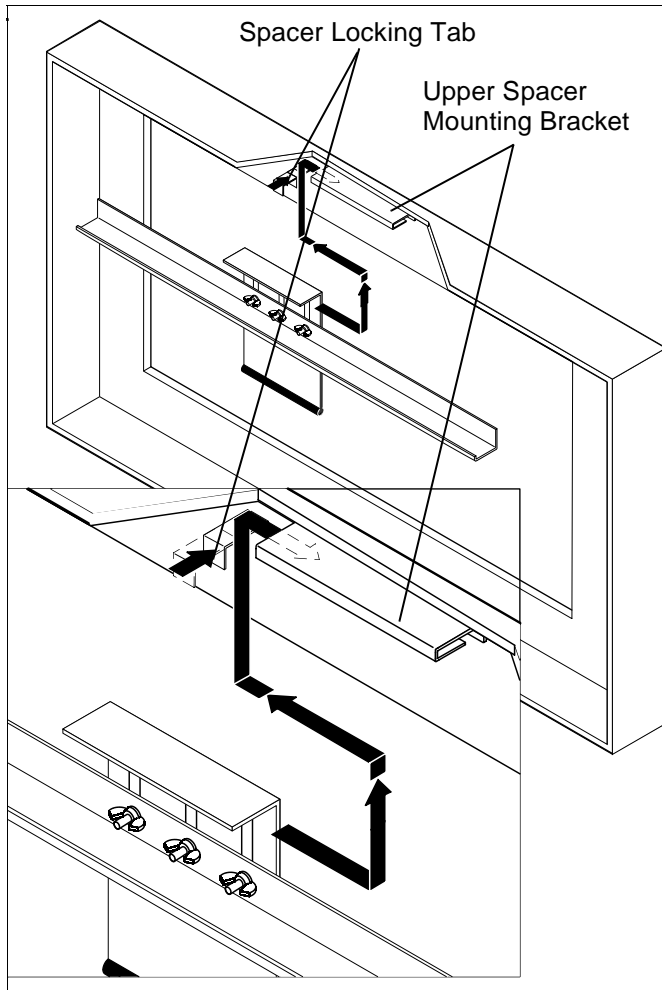

Figure 5
8. Slide top of *LOWER* spacer mounting bracket into *UPPER* spacer mounting bracket until it stops. (See Figure 5)
9. Slide spacer locking tab towards front of frame. (See Figure 5)